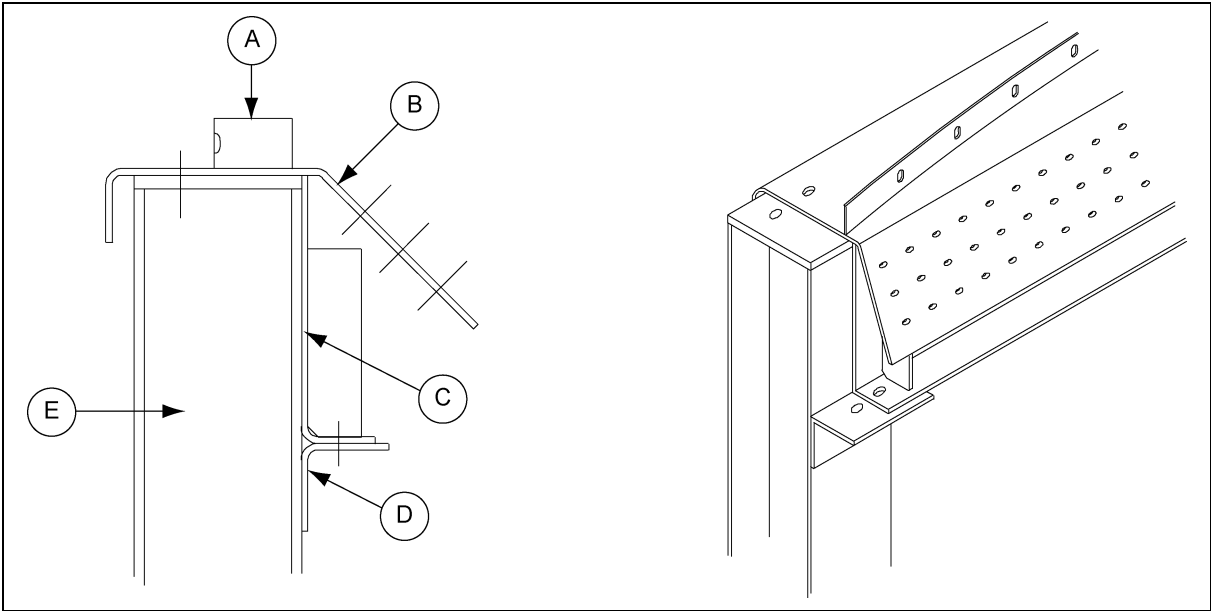

Figure 5C
Using 5/8"-11 x 1-1/2" bolts (S-4109) and 5/8" nuts (S-4110), fasten the compression angle segments to the support clips (D) on the support columns. A 5/8"-11 x 2-3/4" bolt (S-4108) and 5/8" nut (S-4110) may be placed in the top hole of the support column (E) for alignment purposes, but will be removed later when the sidewall base stiffener is to be positioned. Refer to Figure 5C. Do not tighten bolts until hopper panels are installed to allow alignment.